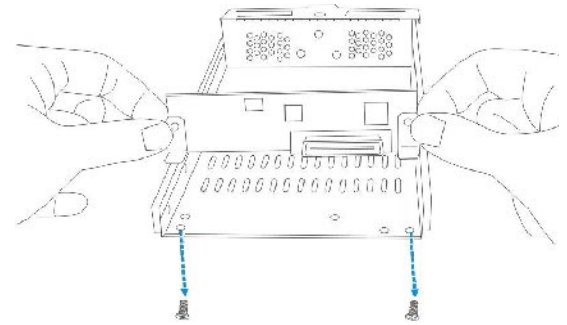

Figure 5: Remove the SATA-to-SATA MUX Kit.
Step 1: Remove the SATA-to-SATA MUX kit. All the drive trays are shipped with a pre-installed SATA-to-SATA MUX kit. To remove it, turn the drive tray upside down and remove the two retention screws that secure it to the drive tray. (See *Figure 5*)